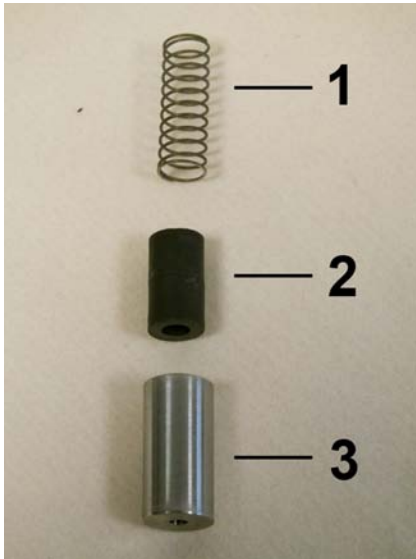

Fig. 38: Spring, magnets and float
- 5.** ➤ The inner parts of the flow monitor consist of the spring (Fig. 38/1), magnets (Fig. 38/2) and float (Fig. 38/3).